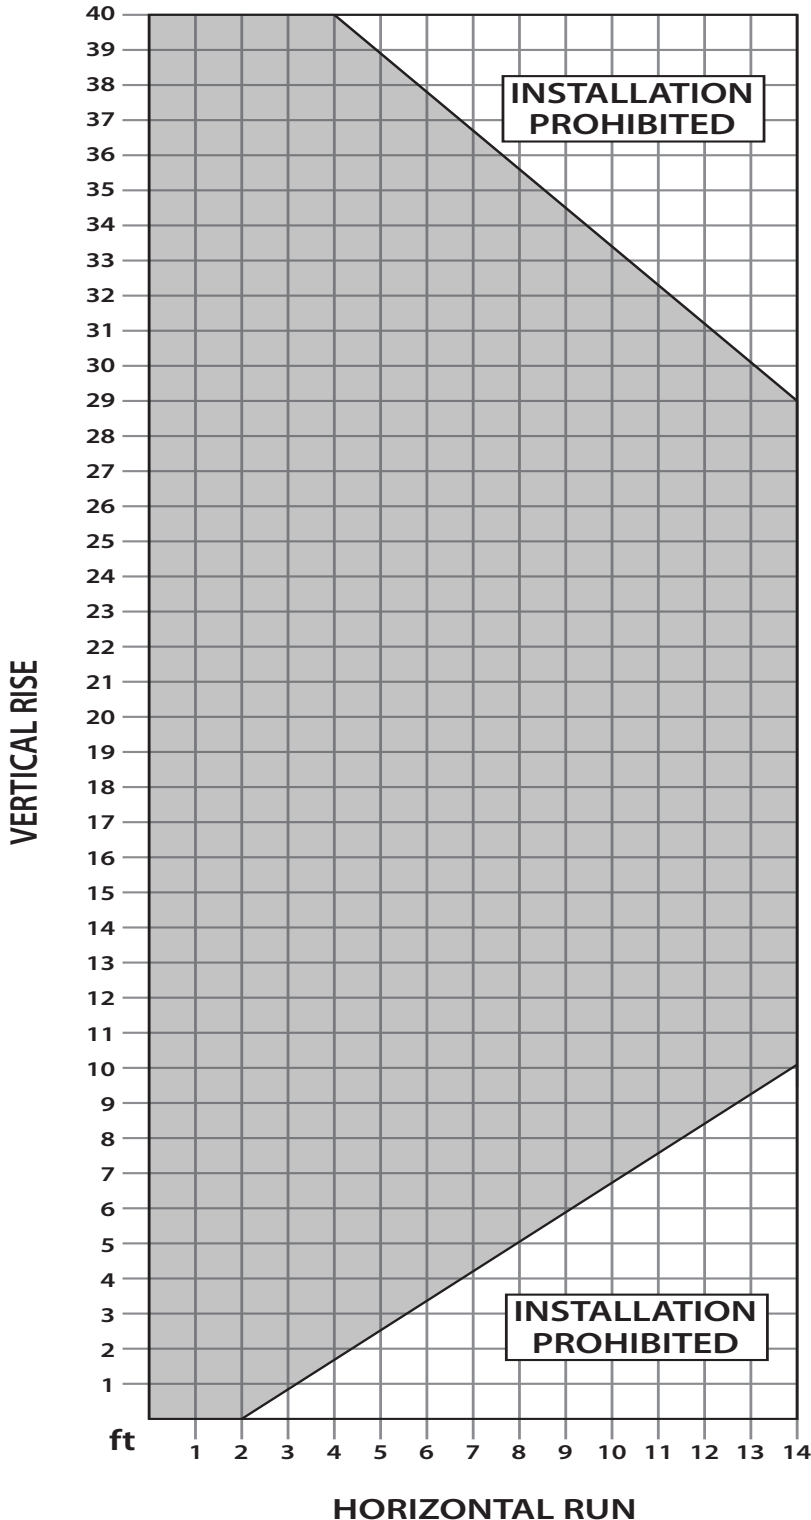

Figure 34: Possible Vent Configurations for Top Vented Vertical and Horizontal Terminations.
Figures 34 & 35 show the range of possible vent configurations if the unit is top or rear vented, for vertical and horizontal terminations. Any layout that remains within the shaded areas is acceptable. Having the fewest number of elbows is ideal, as they tend to disrupt air movement. Using 45° elbows is preferable to using 90° elbows. Also, a shorter vent system will perform better than a longer one. When top vented, the total length of horizontal vent pipe can not exceed 14 feet (4.27m) and the total vent length can not exceed 44ft (13.4m). Any combination of rise and run can be used as long as it lays within the shaded area (a total of two (2) 90° elbows or four (4) 45° elbows can be used. In addition to what is shown, if a 90° elbow is used in the horizontal plane, 3 feet (91.4cm) must be subtracted from the allowable horizontal run (for each 45° elbow, 1½ feet must be subtracted).